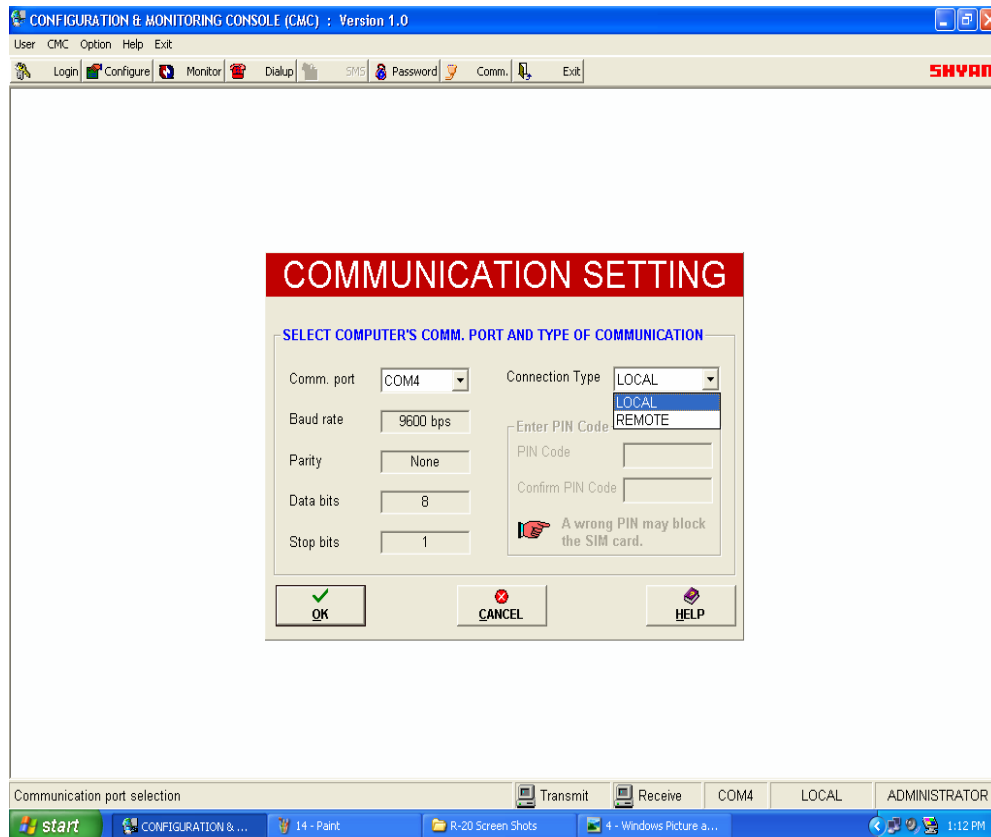

Figure 13: Communication setting
V) Communication (Refer Figure 13)